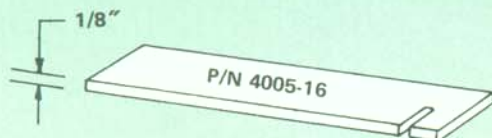

FIGURE 2
2. Using tool 4005.16, check the lever height. (See figure 2).